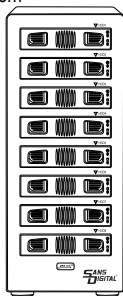

Fig.1
1. Unlock the HDD trays lock and remove the HDD trays from the 8-BAY RAID Enclosure (Fig.1).